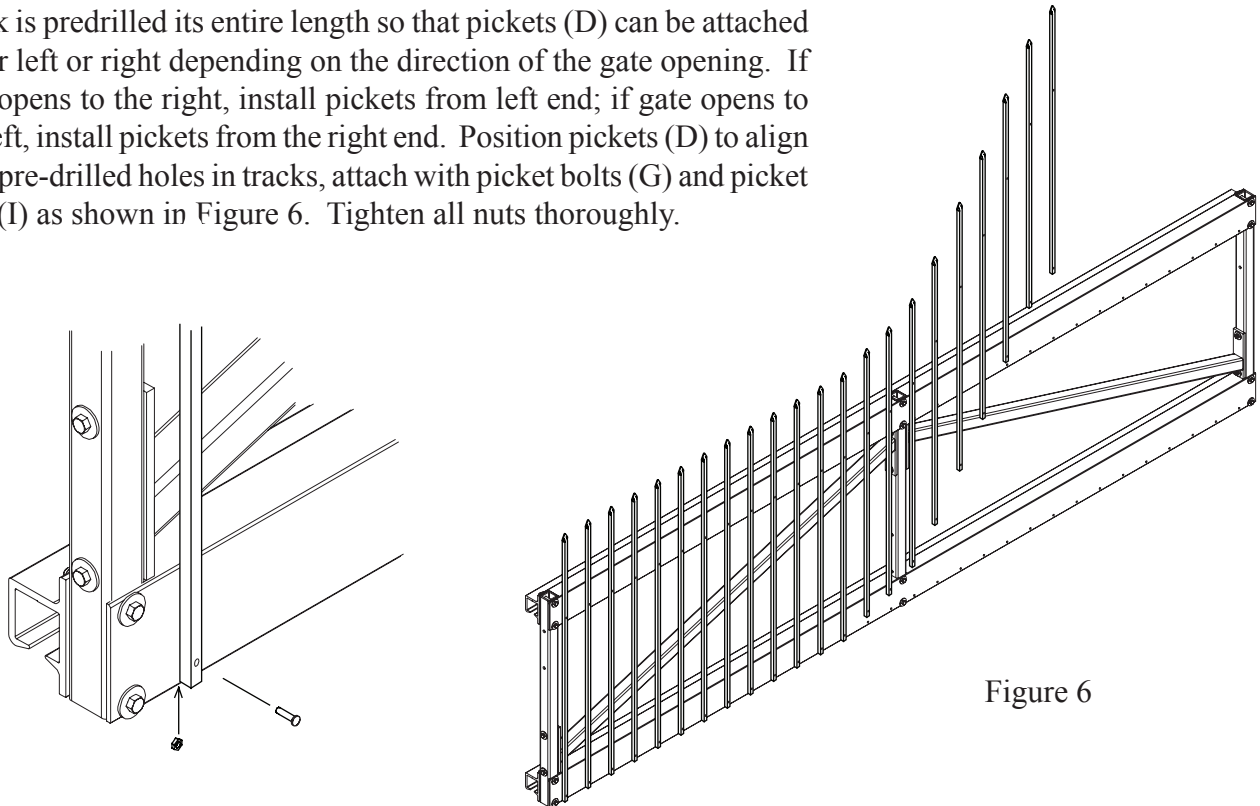

Figure 6
- Attach safety mesh (K) to bottom 6’ of gate (Note: Fasteners are not provided; installer is responsible for attachment method). Sufficient mesh is provided to also cover fence that runs parallel to gate travel path.
- Track is predrilled its entire length so that pickets (D) can be attached either left or right depending on the direction of the gate opening. If gate opens to the right, install pickets from left end; if gate opens to the left, install pickets from the right end. Position pickets (D) to align with pre-drilled holes in tracks, attach with picket bolts (G) and picket nuts (I) as shown in Figure 6. Tighten all nuts thoroughly.